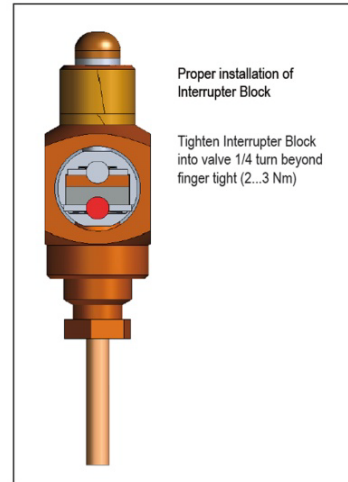

Figure 4
- More than 5.5 mV but the pilot drops out – the increased resistance is either at the kill switch, the interrupter block terminal 1, or in the safety magnet unit (see figure 4).